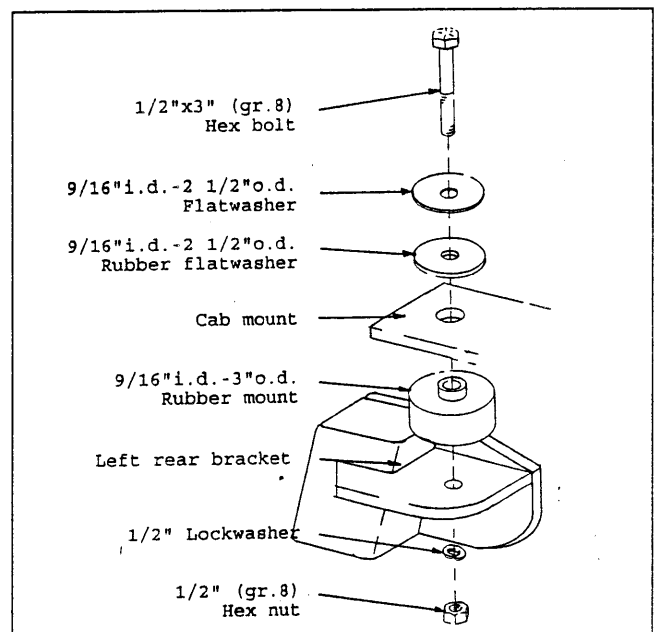

Figure 2
6. Move to the ROPS. Take the left rear bracket (3) and position it against the bottom of the left, rear ROPS mount, with the bracket tubing to the front and inside. Loosely bolt the bracket to the ROPS mount as shown in figure 2.